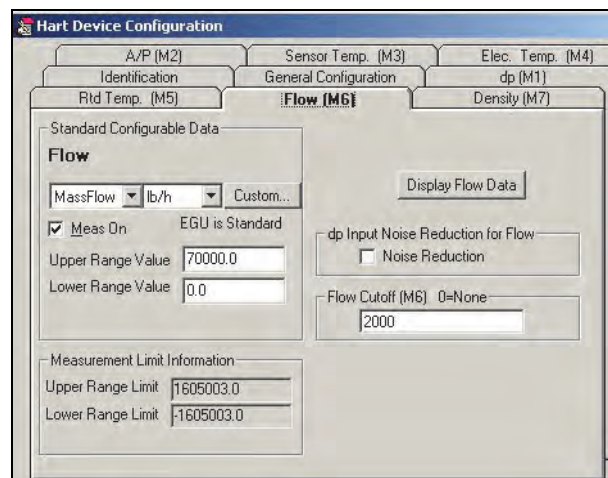

Figure 2. HART Device Configuration Screen
- ▶ Easy-to-use configurator provides selections for user applications. For typical configurator screens, see Figures 2 to 4.